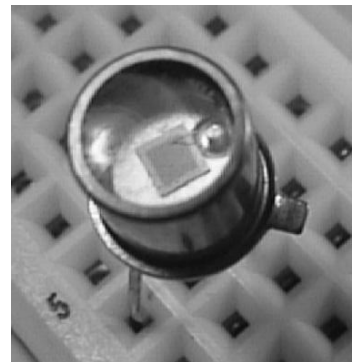

FIGURE 38.16
- 5 The device shown in Figure 38.16 is: